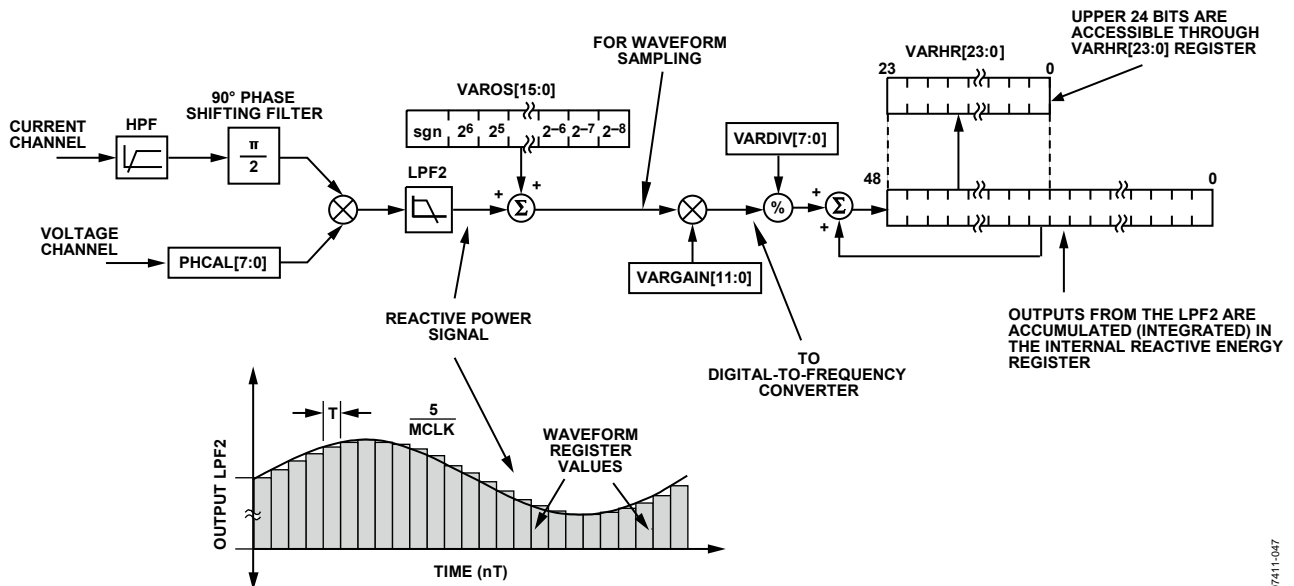

Figure 67. Reactive Energy Calculation
The instantaneous reactive power signal, $q(t)$, is generated by multiplying the voltage and current channels. In this case, the phase of the current channel is shifted by 90° . The dc component of the instantaneous reactive power signal is then extracted by a low-pass filter to obtain the reactive power information (see Figure 67).
Figure 67 shows the signal processing chain for the ADE5169 reactive power calculation. As explained in the Reactive Power Calculation (ADE5169) section, the reactive power is calculated by applying a low-pass filter to the instantaneous reactive power signal. Note that, when reading the waveform samples from the output of LPF2, the gain of the reactive energy can be adjusted by using the multiplier and by writing a twos complement, 12-bit word to the var gain register (VARGAIN[11:0], Address 0x1E). Equation 23 shows how the gain adjustment is related to the contents of the var gain register.
The ADE5169 also incorporates a reactive power offset register (VAROS[15:0] (Address 0x21). This is a signed, twos complement, 16-bit register that can be used to remove offsets in the reactive power calculation (see Figure 67). An offset can exist in the reactive power calculation due to crosstalk between channels on the PCB or in the IC itself. The offset calibration allows the contents of the reactive power register to be maintained at 0 when no power is being consumed.
The discrete time sample period (T) for the accumulation register in the ADE5169 is 1.22 μ s (5/MCLK). As well as calculating the energy, this integration removes any sinusoidal components that may be in the active power signal. Figure 67 shows this discrete time integration or accumulation. The reactive power signal in the waveform register is continuously added to the internal reactive energy register.
As shown in Figure 67, the reactive power signal is accumulated in an internal 49-bit, signed register. The reactive power signal can be read from the waveform register by setting the WAVMODE register (Address 0x0D) and setting the WFSM bit (Bit 5) in the Interrupt Enable 3 SFR (MIRQENH, Address 0xDB). Like the current and voltage channel waveform sampling modes, the waveform data is available at sample rates of 25.6 kSPS, 12.8 kSPS, 6.4 kSPS, and 3.2 kSPS.